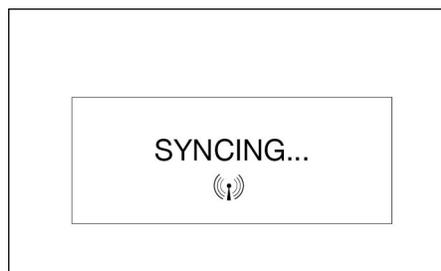

FIG. 45
3. The controller will begin to sync (FIG. 45).